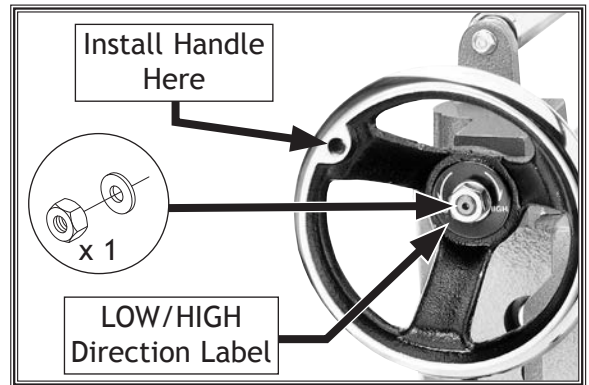

Figure 12. Table elevation handwheel installed.
5. Line up notch in handwheel bore with key, then slide handwheel onto shaft (see **Figure 12**).
6. Slide LOW/HIGH direction label onto handwheel shaft, and secure handwheel with 13mm flat washer and M12-1.75 hex nut (see **Figure 12**).
7. Thread handwheel handle into handwheel (see **Figure 12**) and tighten with wrench.